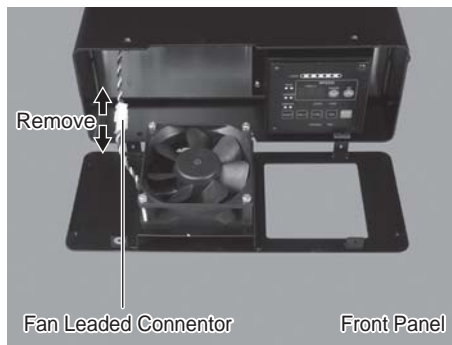

Fig. 40
- (5) Remove the FAN Cord (Fig. 40).